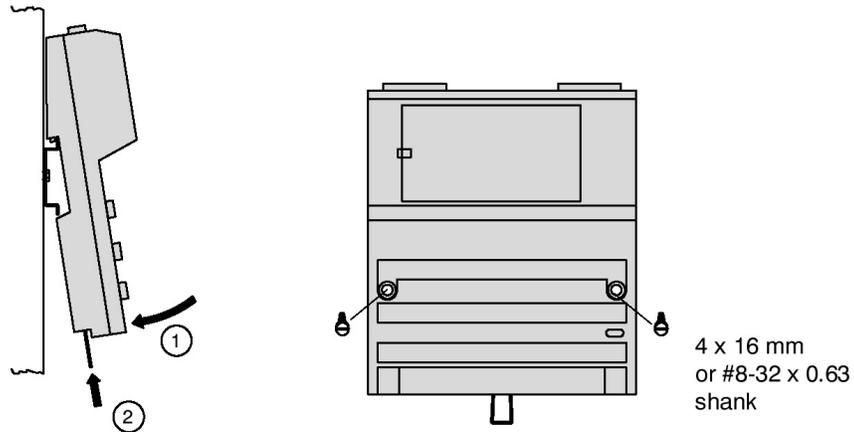

Figure 1. Mounting the Interface Base Unit
2. To mount the interface base unit directly to a panel, insert mounting screws and washers through the two mounting holes. See Figure 1, below.